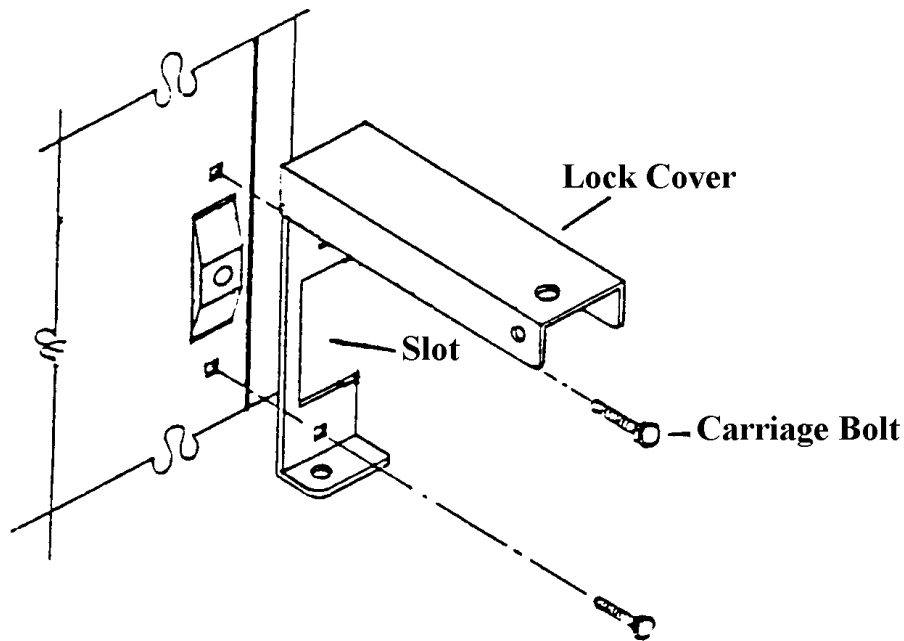

FIGURE 5
2. Position the lock cover over the T-Handle. Note the position of the slot in the lock cover in figure 5 above.